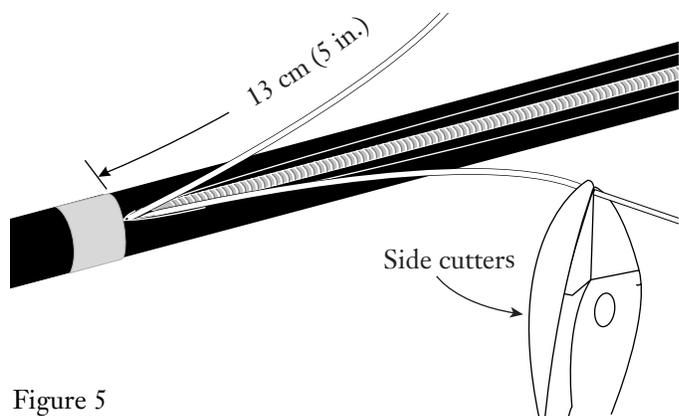

Figure 5
4.5 Use side cutters to cut the metallic rods to the length specified for the hardware being installed. If not specified, cut to 13 cm (5 in.) from the tape wrap (Figure 5). **ALWAYS WEAR SAFETY GLASSES WHEN CUTTING THE METALLIC RODS.**